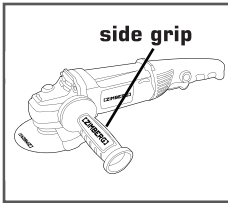

Fig5
► Side grip (Fig 5)
Screw the side grip securely on the position of the tool as shown in the figure 5. Hold the side grip firmly by hand all the way you will control the tool better.